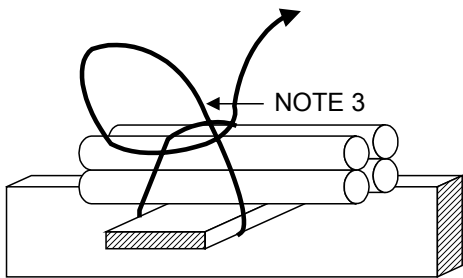

Figure 13c
3. TIGHTEN STITCH UNDER THE SLAT AND HOLD WITH FINGER (FIGURE 13c). AVOID CROSSED STITCHES UNDER SLAT.